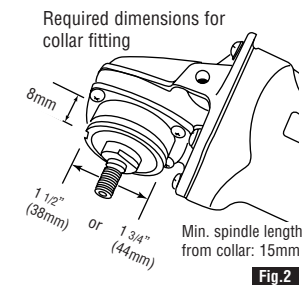
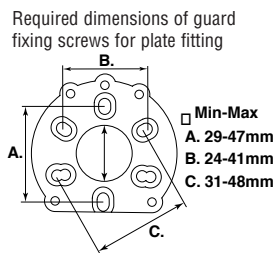

Fig.2
Fig.3
2. Check the following diagrams to see if the Mini Grinder extension ②① can be fitted to your angle grinder by using the grinder collar section (fig.2), or an Arbortech Adaptor Plate (MIN017) fig.3 & 4.